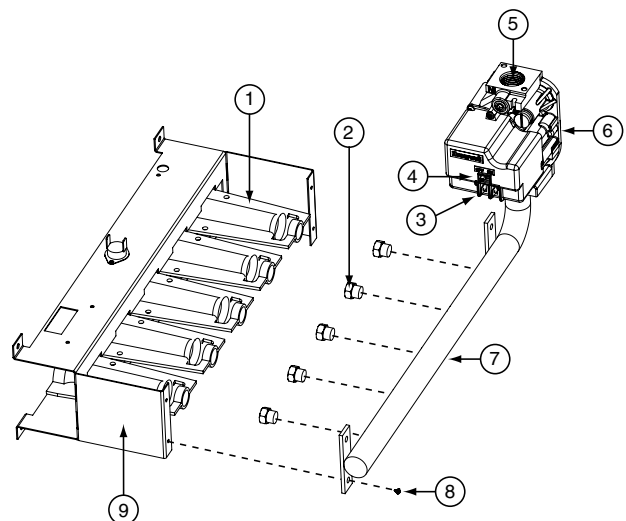

Figure 1. Burner & Manifold Assembly
5. Move the gas valve ON/OFF switch (4) to the OFF position as shown in Figure 1. For VR8205Q2381 gas valves, turn the knob to the OFF position.
6. Remove the wires from the terminals (3) of the gas valve (6).
7. Remove the supply gas piping from the gas valve inlet (5).
8. Carefully remove four screws (8) securing the gas manifold assembly (7) to the burner assembly (9).
9. Set the screws (8) aside and remove the gas manifold assembly (7) from the appliance.
10. Carefully remove the burner orifices (2) from the gas manifold assembly (7).